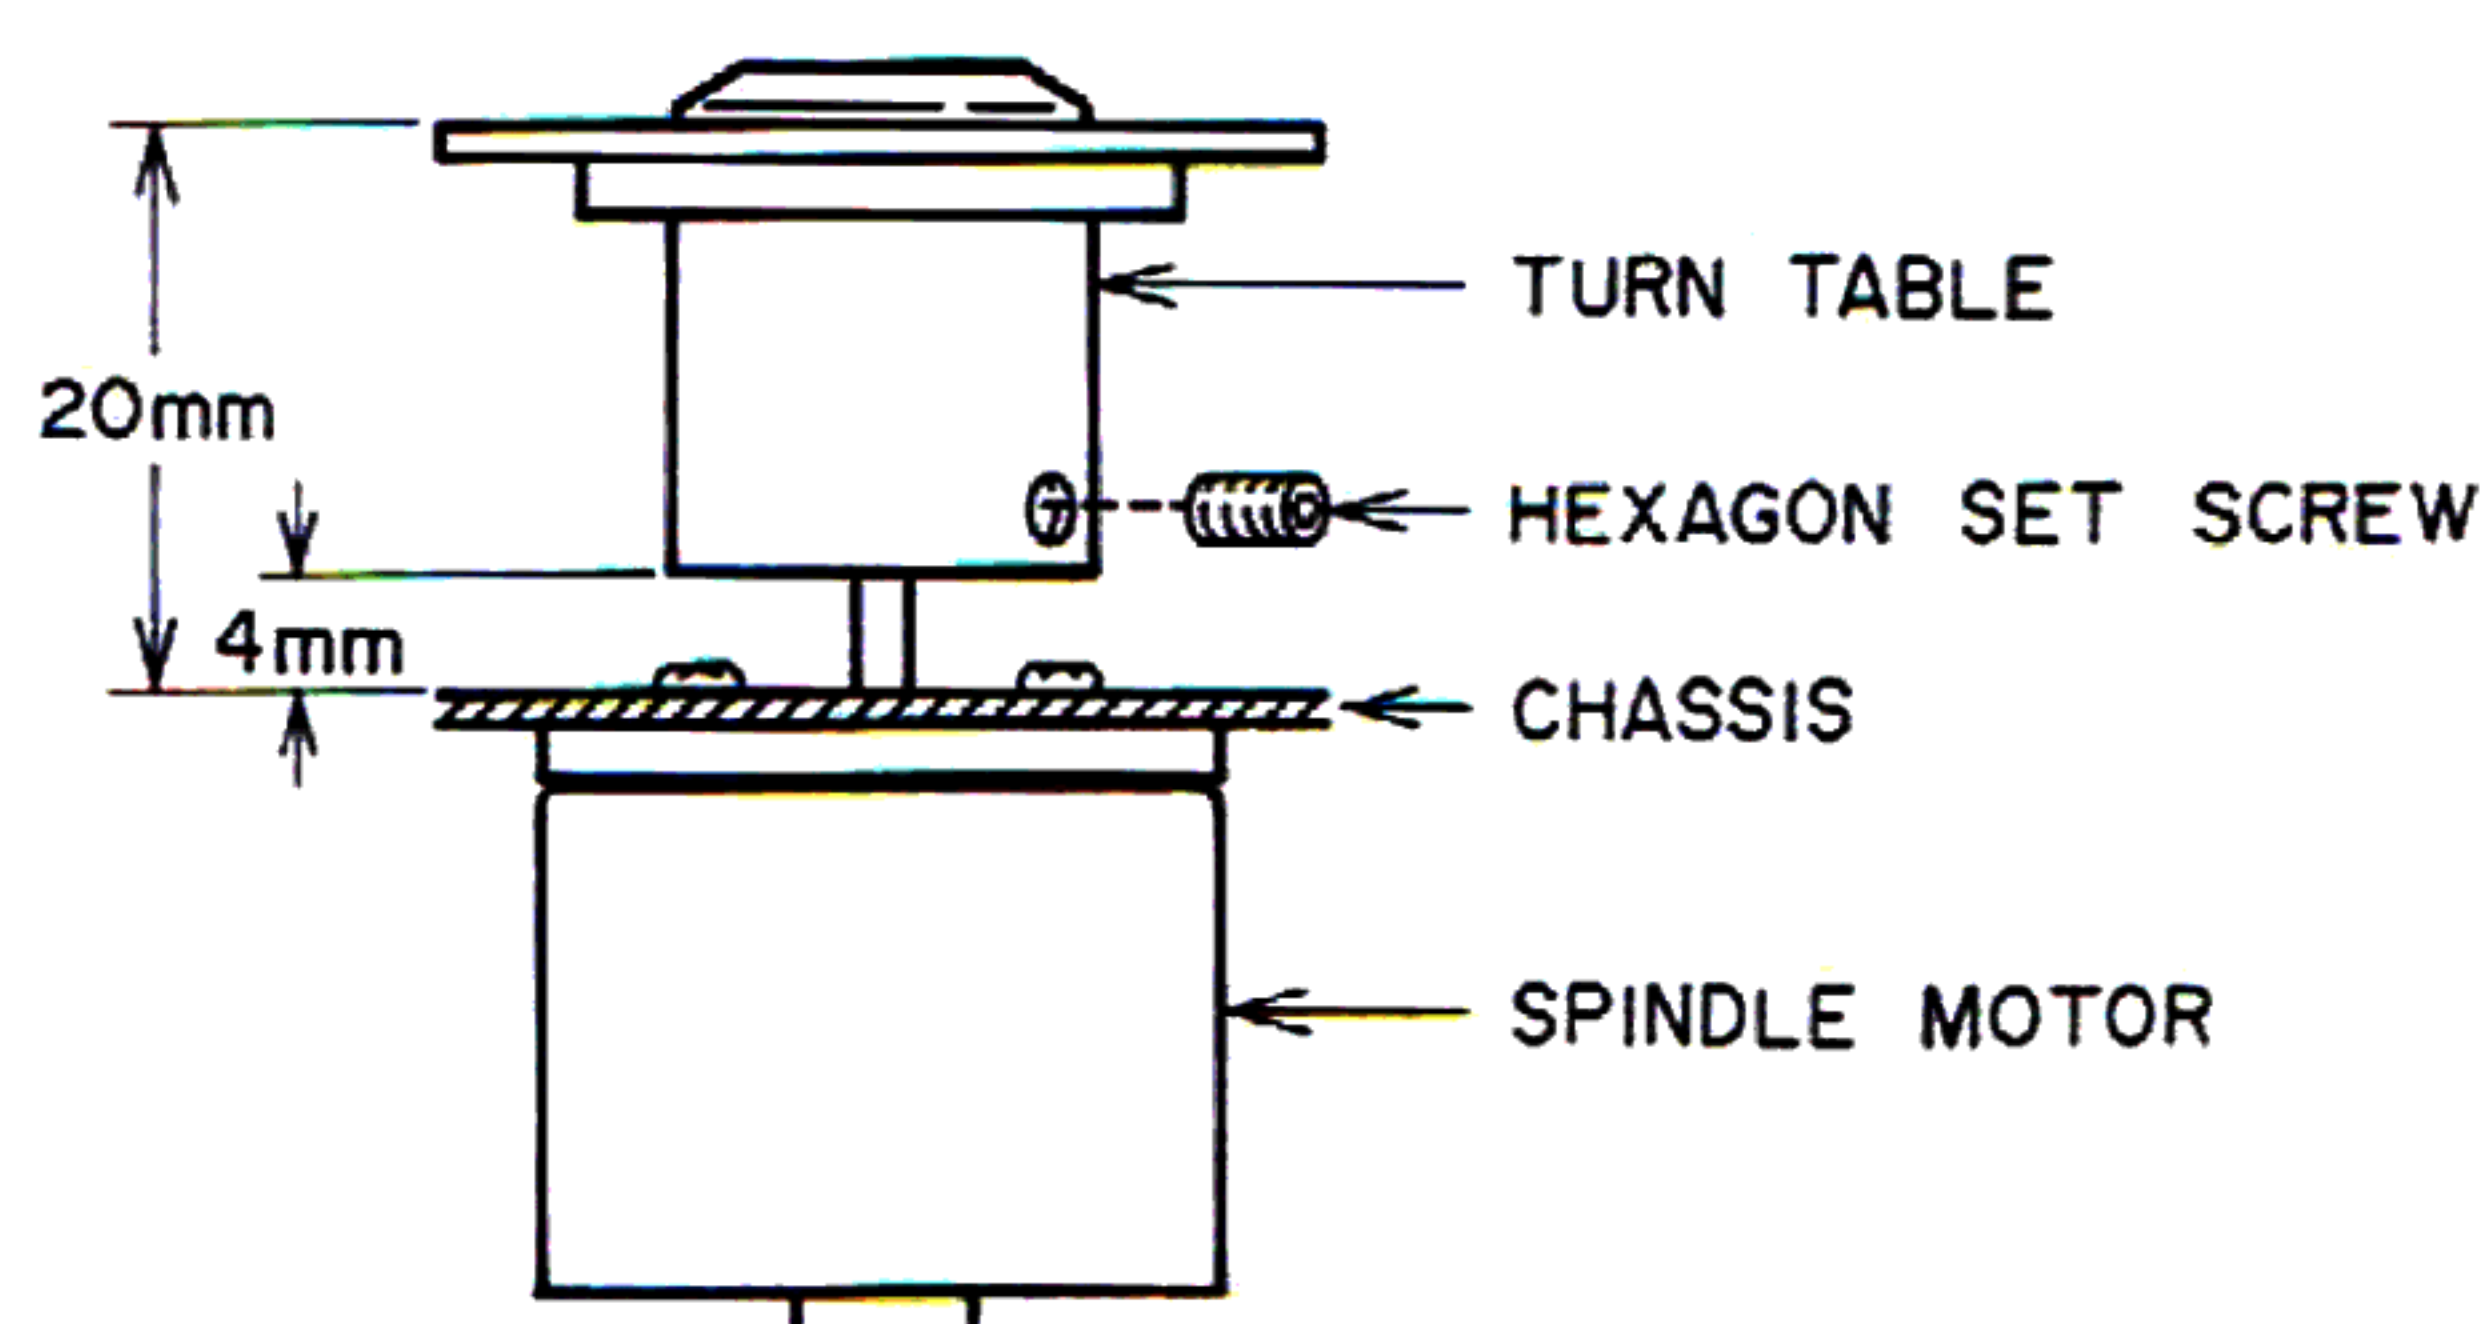

Fig. 5-2
- 6) Put the new turntable on to the motor shaft and adjust the turntable so that the height of the turntable from chassis becomes 20 mm or its clearance from chassis becomes 4 mm as shown in Fig. 5-2.